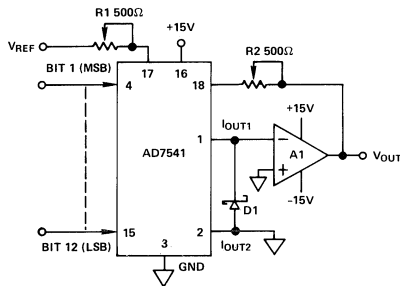

Figure 15. Unipolar Binary Operation
1. Protection diodes as shown in Figures 15 and 16.
function as in Figure 15. Network R3, R4, R5 sum $\frac{1}{2}$ LSB of current into I_{OUT2} to ensure correct coding at zero.
Table 1. Code Table for Circuit of Figure 15.
With the AD7541 connected in its normal multiplying configuration as shown in Figure 15, the transfer function is